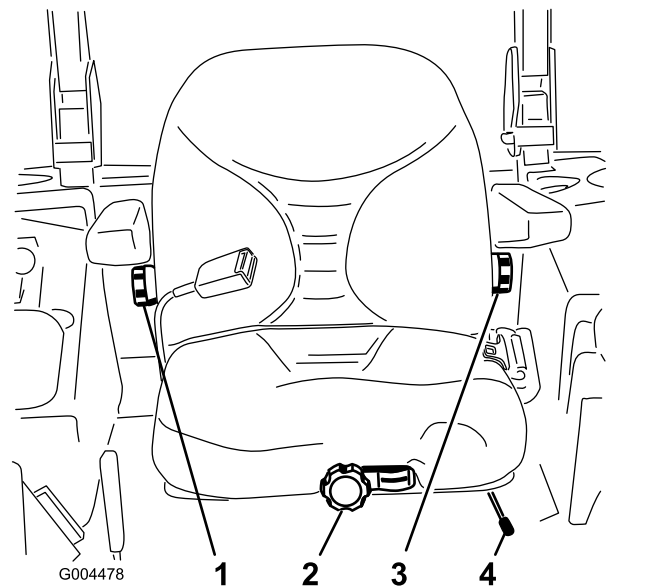

Figure 13
1. Move the lever sideways to unlock the seat (Figure 13).
To adjust it, turn the knob, under the right-side armrest, in either direction to provide the best comfort (Figure 13).
To adjust it, turn the knob, under the left-side armrest, in either direction to provide the best comfort (Figure 13).